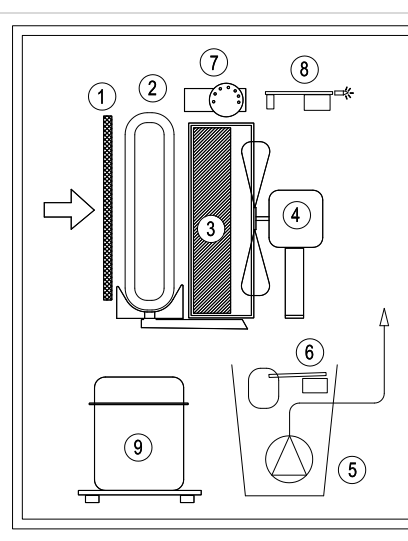

Fig. 3
Fig. 3 refers to the machine provided with lifting pump, which includes a **water collection tank (5)** and a **floating ball stopping device for full tank (6)**, in case the pump would not unload properly.